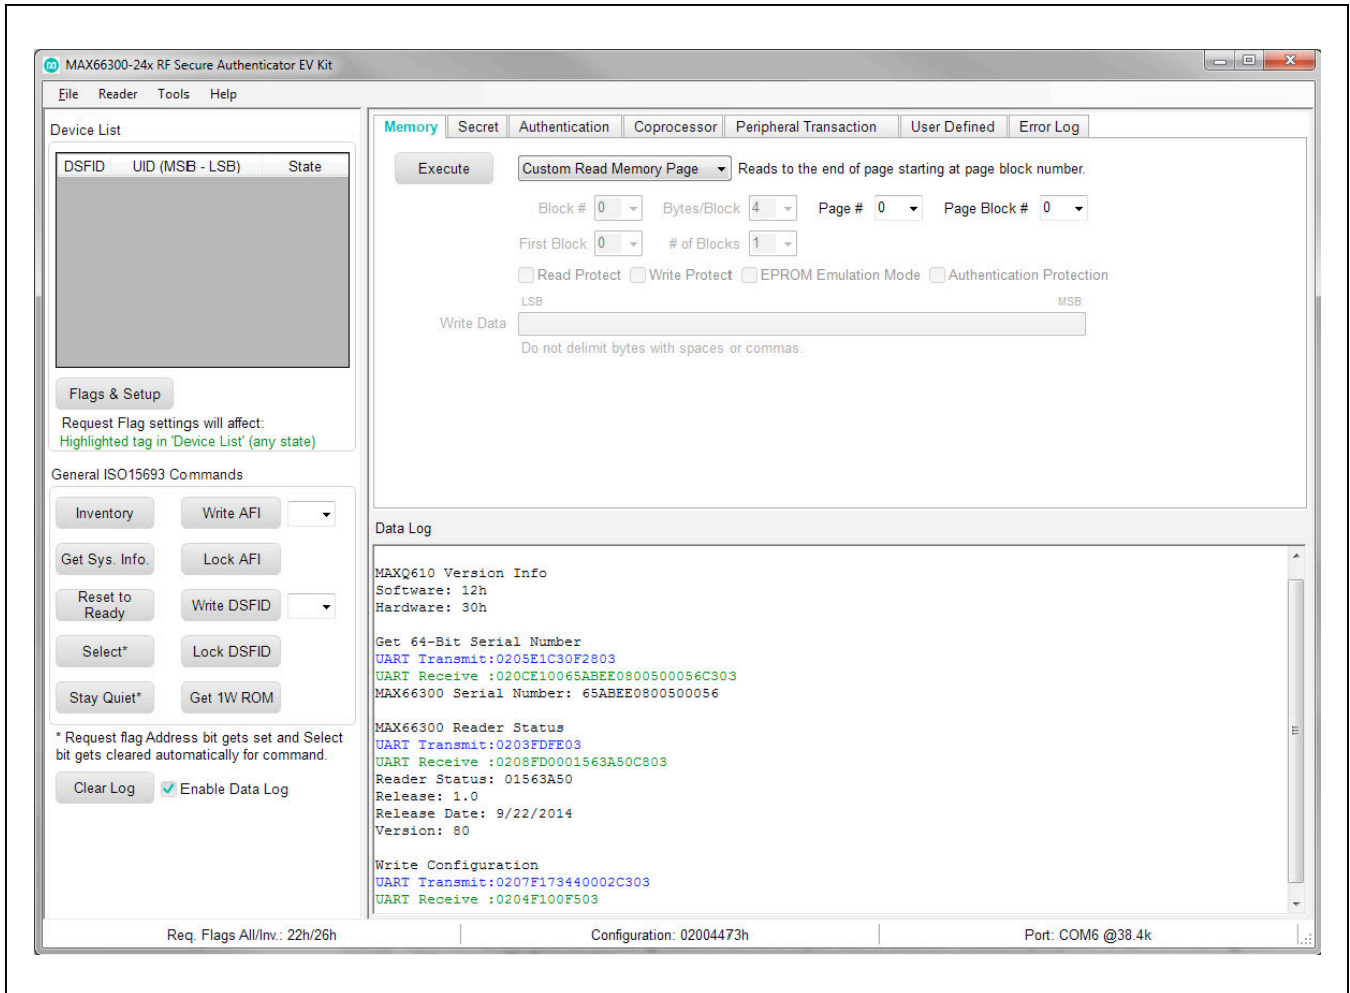

Figure 4. MAX66300-24x EV Kit GUI
- 8) The evaluation program GUI appears as shown in Figure 4.
Quick Start section with the GUI open as in Figure 4, click on rectangular red objects and confirm red circled objects for the following steps: